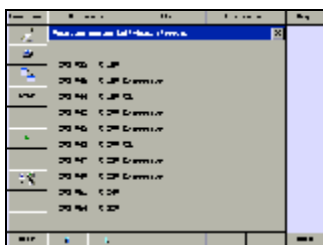

Fig.3.16
12. Select **203.046 C 180 Kompressor** as shown in Fig.3.16.